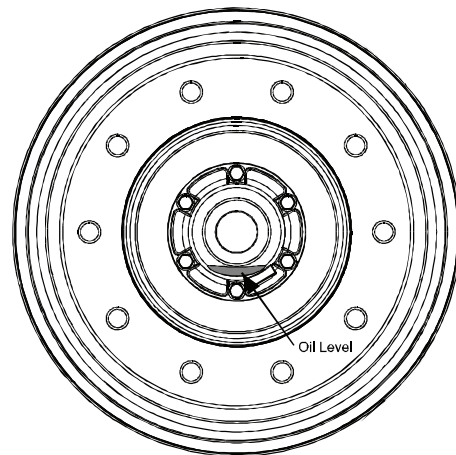

Figure 30 - Wheel Bearing Oil Level
19. Check oil level through the hub cap window. (See Figure 30). If level is below the “add” level line, then fill with recommended oil until “full” level is achieved. Add oil slowly since the heavy weight oil will settle slowly in the hub. (Note: The hub cap window can only be cleaned with mild soap and water. Aromatic solvents should not be used as they will impair the transparency of the window.)
bolt and lock nut. Refer to Figure 30.